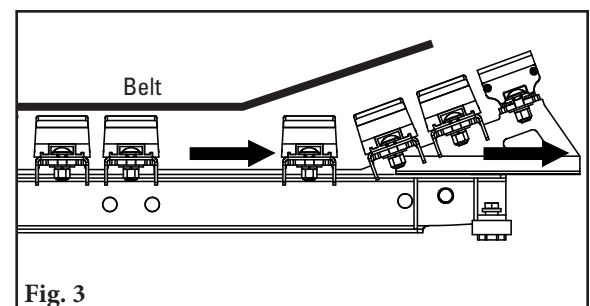

Fig. 3
3. **Slide each half of bed out.** Pull out half of the bed on each side until they engage the slide stop (Fig. 3). This may require a come-along to break it free.